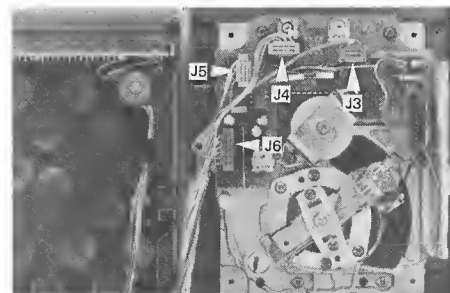

Fig. 2.6
- Instead of six connectors only four have to be disconnected (see Fig. 2.6).